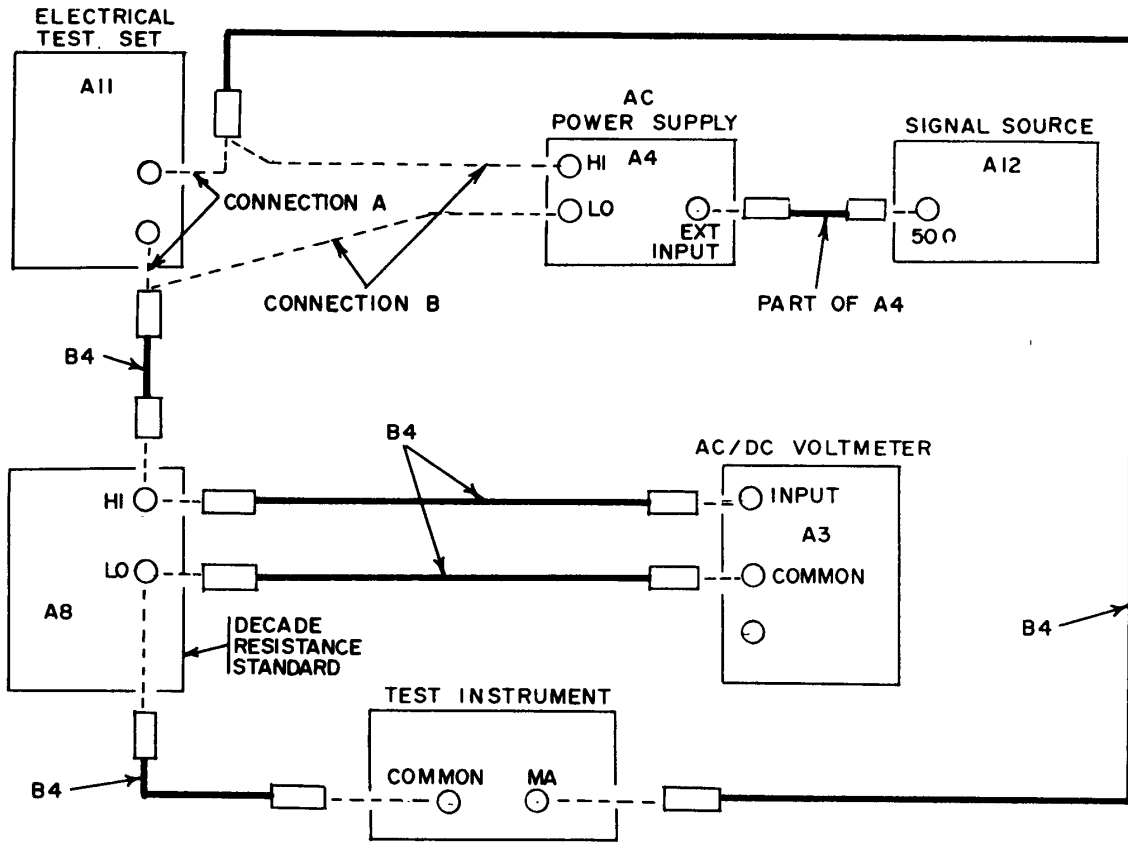

Figure 3. Dc and ac current (AN/GSM-256, AN/GSM-259 and AN/TSM-55) - equipment setup.
- (1) Set FUNCTION switch to VOLTS and RANGE switch to 100 MV. If necessary, adjust front panel ZERO adjust to obtain an indication of 00.00 on TI.
- (2) Connect equipment as shown in figure 3, connection A.